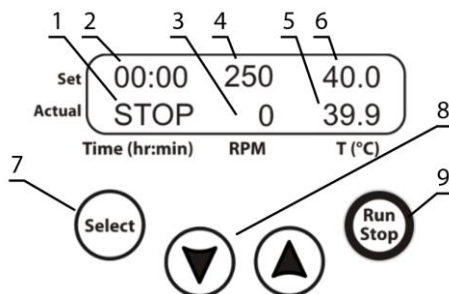

Figure 1. Control panel
- Previously set time (fig. 1/2), set speed of magnetic stirring element (fig. 1/4) and set temperature of water (fig. 1/6) in the upper line (**Set**);
- Time indication (STOP, fig. 1/1), current speed of magnetic stirring element (fig. 1/3) and current temperature of water (fig. 1/5) in the lower line (**Actual**).
- 5.3. **Settings.** Press the **Select** key (fig. 1/7) to choose the parameter to change. Each pressing of the **Select** key consecutively activates the parameters. The active parameter is flashing. Use the ▼ and ▲ keys (fig. 1/4) to set required value. Pressing the key for more than 2 s will increase the increment.
- 5.4. **Temperature setting.** Activate and set the temperature (**T(°C)**, fig. 1/6). Heating starts. The actual temperature value appears in the lower line of the display (fig. 1/5).
- 5.5. **Magnetic stirring element rotation speed setting.** Activate and set the rotation speed in rpm (**RPM**, fig. 1/4). The actual speed value appears in the lower line of the display (fig. 1/3).
- 5.6. **Time setting.** Activate and set the desired time in hours and minutes (**Time (hr:min)**, fig. 1/2).
- 5.7. Press the **Run/Stop** key (fig. 1/9) to start the timer. The elapsed time interval appears in the lower line of the display (fig. 1/1).
Stopping the timer does not stop the heating/temperature maintenance process. The heating can be stopped by reducing the temperature below 25°C using the ▼ key (fig. 1/4) until the OFF indication appears on the display.